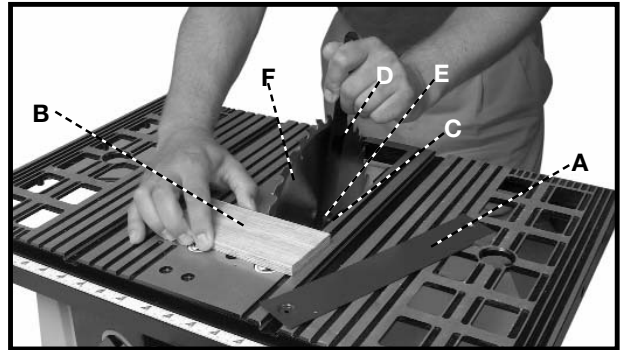

Fig. 41
2. Remove table insert (A) Fig. 41, and raise saw blade (F) to its maximum height.
3. To remove blade, place the wrench (D) on the flats of the arbor nut (C) to keep the arbor from turning. Place a piece of wood (B) flat on the table against the blade so that a tooth of the blade can "grab" the wood to keep the blade from turning. Use wrench to turn the arbor nut toward the front of the saw. Remove arbor nut, blade flange (E), and saw blade.
4. Assemble the new blade, making certain the teeth point down at the front of the saw table, and assemble outside blade flange and arbor nut. Using the piece of wood (B) to keep the blade from turning, tighten arbor nut by turning wrench (D) toward the rear of the saw.